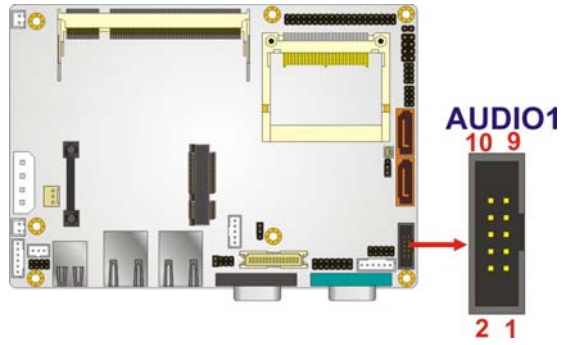

Figure 3-4: Audio Connector Pinouts (10-pin)
- CN Location:** See **Figure 3-4**